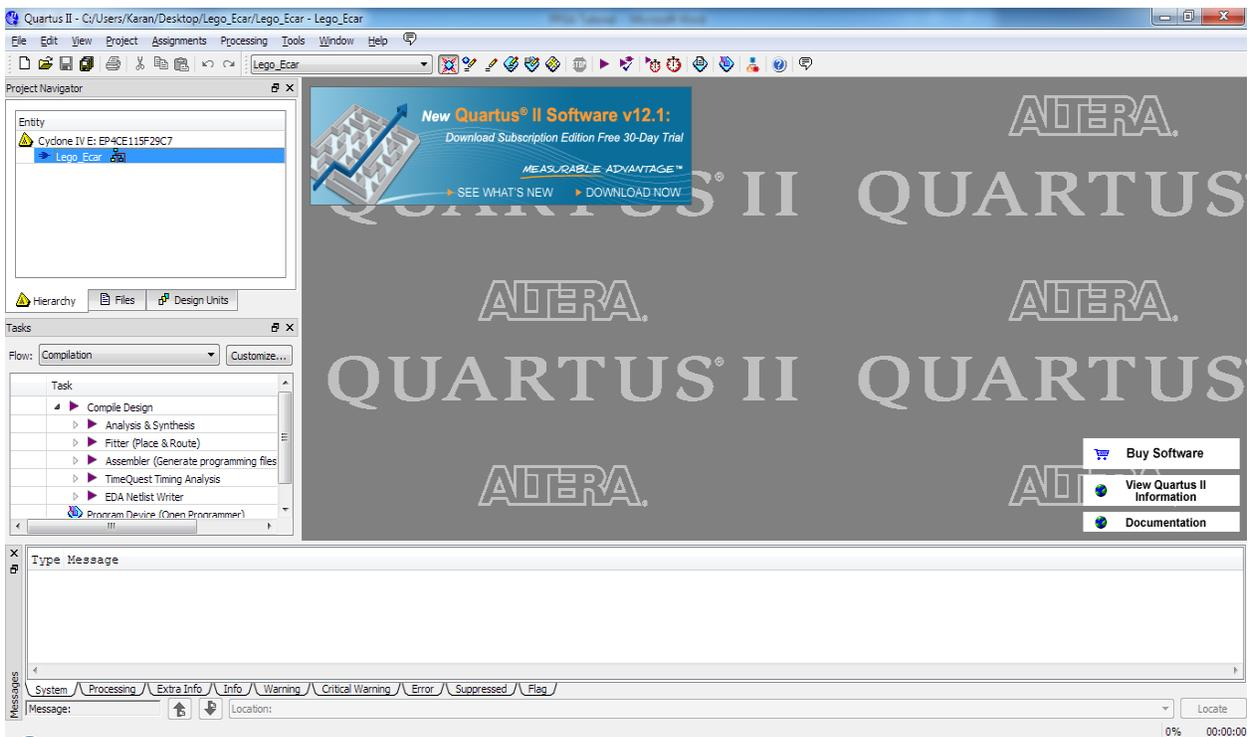

Figure 1-52
32. Click **Exit** to exit the SOPC Builder and return to the window as shown in Figure 1-52.